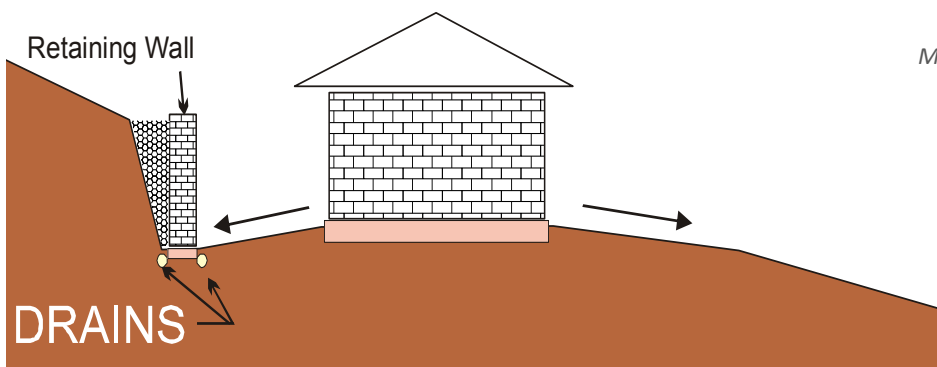

FIGURE 8
- Ensure that the floor level allows for proper drainage around the outside of the house, and that the property is protected from any adjoining water flows (Figure 8).